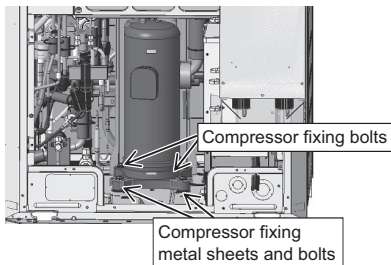

Figure 12
- (12) Remove the four bolts holding the compressor down. (See Figure 12.)